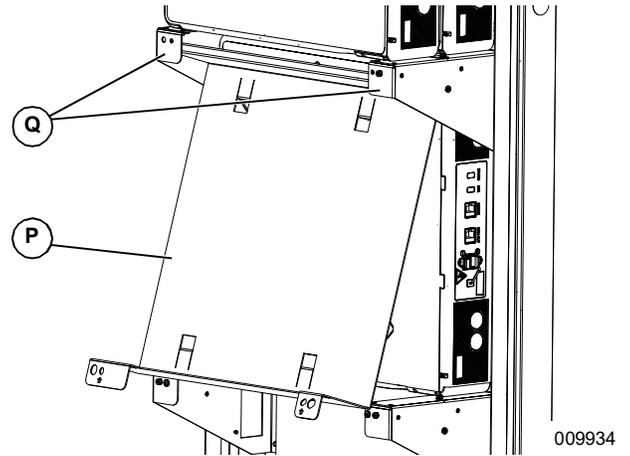

Figure 4-18. Installing Module Spacer (1 of 3)
1. See Figure 4-18. Angle top of spacer (P) under and behind bracket lip (Q).